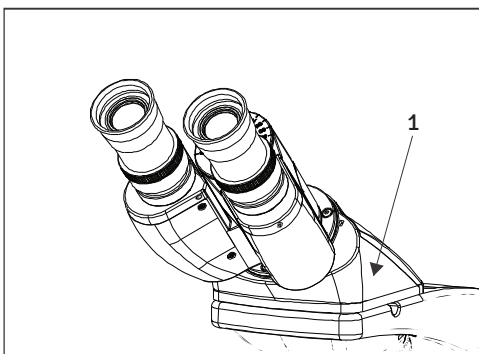

Fig.13
2. Insert 10x eyepieces into the ocular sleeve and tighten the clamping screw (1) using allen wrench 1.2mm. See figure 13.